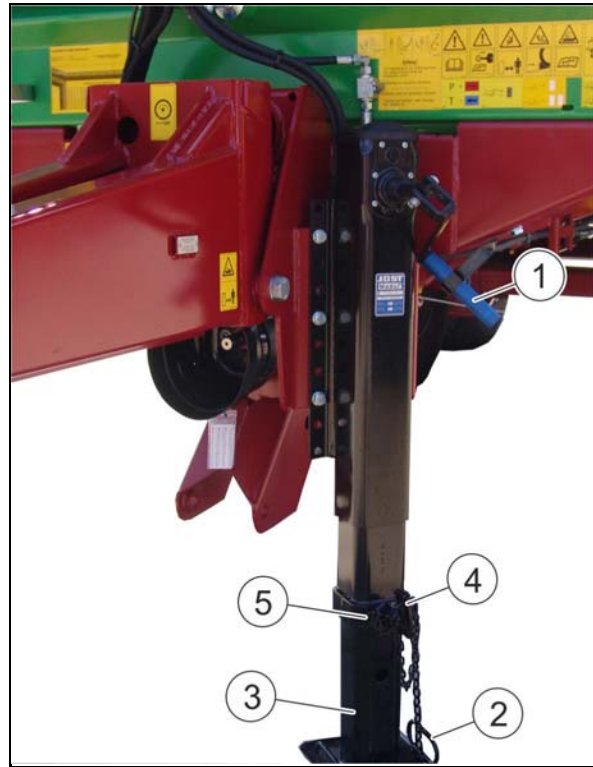

Fig. 52
1. Use one hand to grip the handle (Fig. 52/2) of the telescopic quick adjustment (Fig. 52/3).
2. Use the other hand to unlock and remove the locking bolt (Fig. 52/4).
5. Secure the locking bolt against accidental losing by means of the spring cotter (Fig. 52/5).
6. Use the crank handle (Fig. 52/1) to lower the supporting leg to support position.